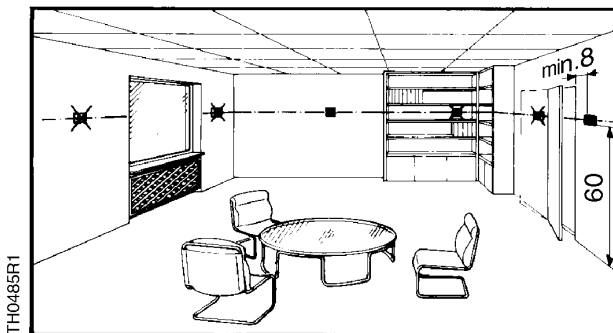

Figure 11. Acceptable Mounting Height.
- Mount the unit approximately 60 inches (150 cm) above the floor. (See Figure 11.)